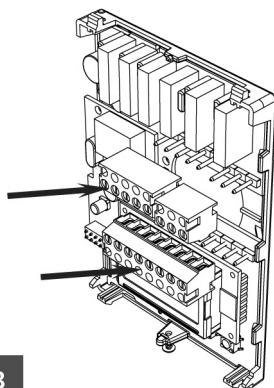

Fig. 3
11. Gently push excess wiring back into hole (Fig. 3).
12. Re-Install wiring terminals in their correct locations (Fig. 3).